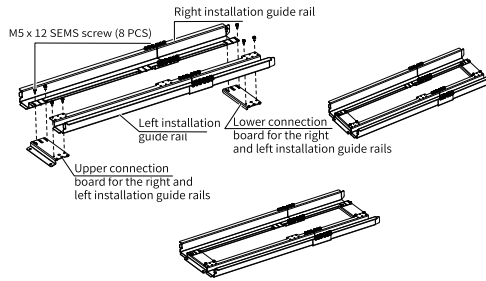

Figure 1-11 Assembling guide rails
- a. Assemble the guide rail, as shown in "Figure 1-11 " on page 26.